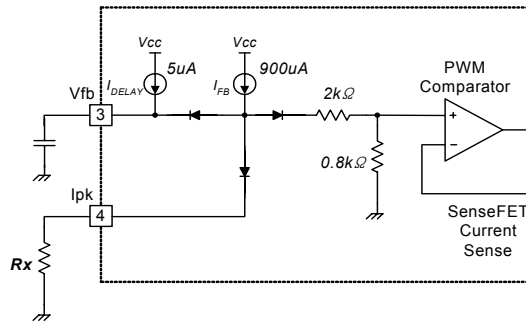

Figure 13. Peak Current Limit Adjustment
**8. Adjusting Peak Current Limit :** As shown in Figure 13, a combined 2.8kΩ internal resistance is connected to the non-inverting lead on the PWM comparator. A external resistance of Rx on the current limit pin forms a parallel resistance with the 2.8kΩ when the internal diodes are biased by the main current source of 900uA.